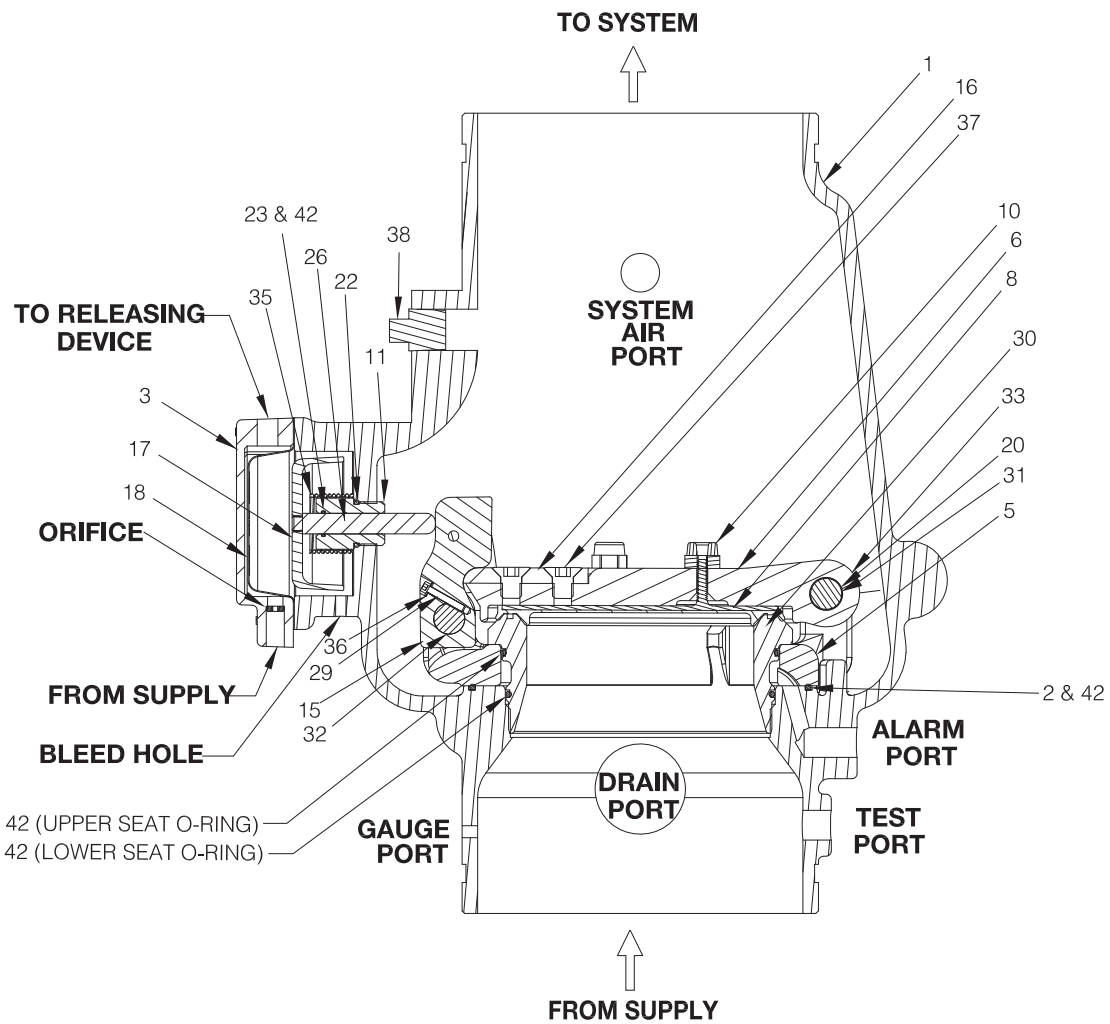
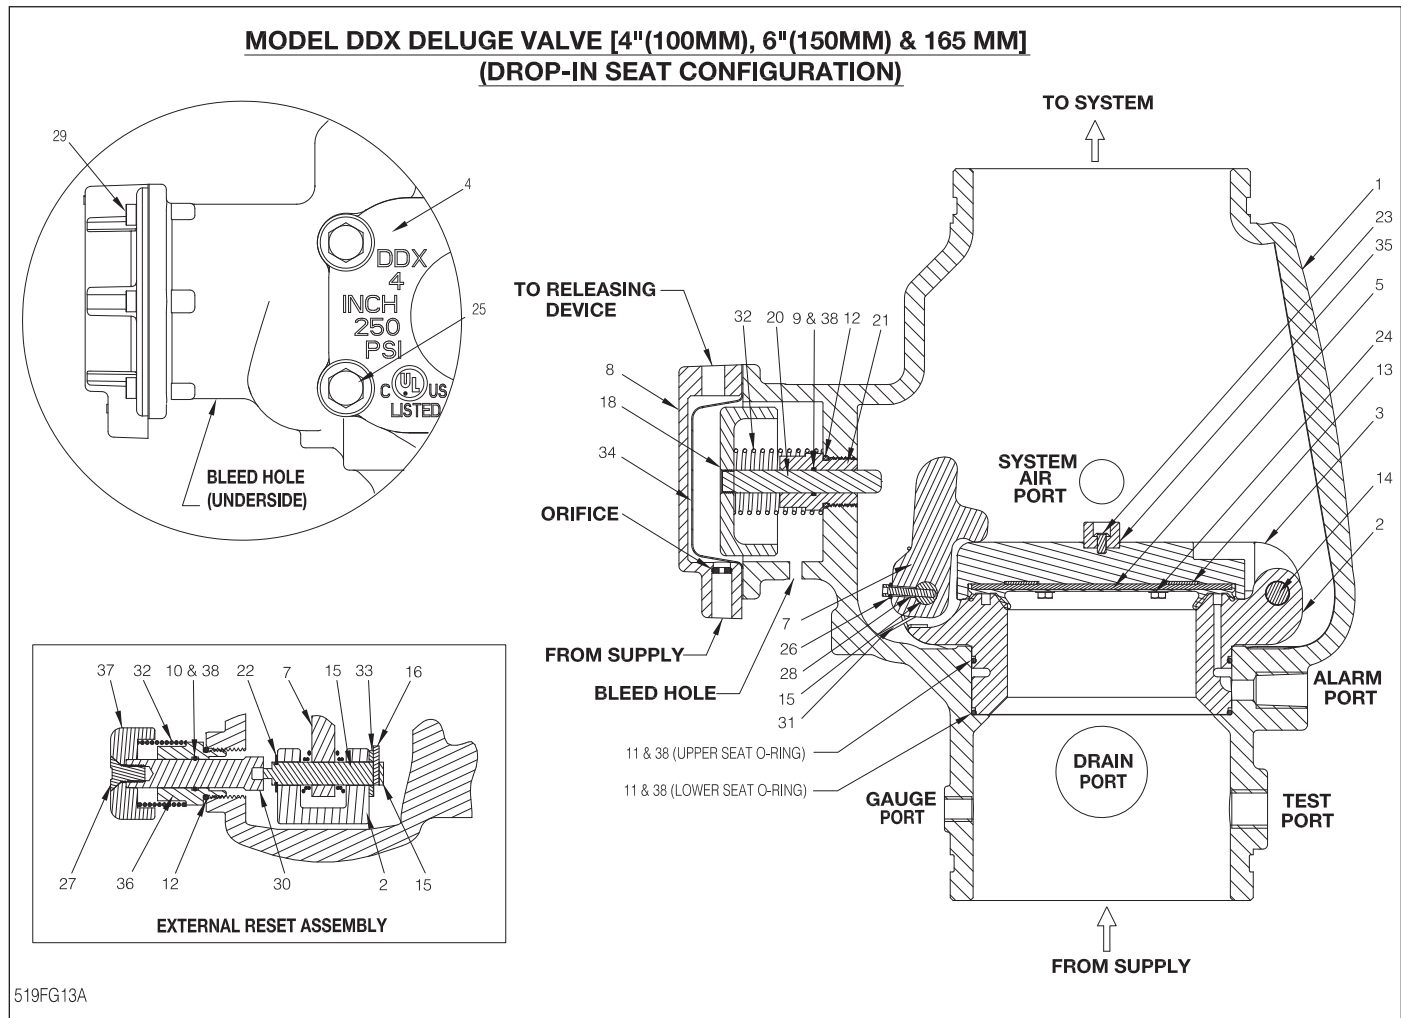

Fig. 13
Fig. 14
6. With the Model B Manual Emergency Station, valve D (Fig. 15) open, push in and rotate the Deluge Valve's external reset knob (#14, Fig. 13 or #38, Fig. 14) clockwise, until you hear a distinct noise indicating that the clapper has reset. **Note:** The reset knob can be rotated only while pressure in the pushrod chamber is vented to atmospheric conditions (0 psig).
4. **Ball drip valve G (Fig. 15)** — Make sure valve F (Fig. 15) is open. Push in on the plunger to be sure ball check is off its seat. If no water appears, the Deluge Valve's water seat is tight. Inspect the bleed hole (see Fig. 13 or Fig. 14) on the underside of the push rod chamber for leakage.
Refer to Figs. 13, 14 & 15.
Model DDX (Screw-In Seat Configuration) Deluge Valves Parts List (Refer to Fig. 13)
Model DDX (Drop-In Seat Configuration) Deluge Valves Parts List (Refer to Fig. 14)
This condition can be caused by leakage past the system side of the Model DDX Deluge Valve's seal assembly (#8, Fig. 13 or #5, Fig. 14). Be sure that this surface is free of any type of debris. To eliminate leakage due to water column in a deluge system, refer to the section in this bulletin marked “Draining Excess/Condensate Water From System”. If the problem continues proceed to the following section.
If system air is leaking out the ball drip valve, the problem is either damage to the airside of the Model DDX Deluge Valve's seal assembly (#8, Fig. 13 or #5, Fig. 14), seat (#29, Fig. 13 or #2, Fig. 14), the upper seat o-ring (#23, Fig. 13 or #11, Fig. 14) or, on the 8" (200 mm) valve size only, the mounting ring o-ring (#2, Fig. 13). If supply water is leaking out the ball drip valve, the problem could be caused by damage to the Model DDX Deluge Valve's seal assembly (#8, Fig. 13 or #5, Fig. 14), seat (#29, Fig. 13 or #2, Fig. 14), or lower seat O-ring (#24, Fig. 13 or #11, Fig. 14). The following section provides instructions to correct both conditions:
- B) Remove the Deluge Valve's front (handhold) cover (#7, Fig. 13 or #4, Fig. 14) and inspect the seat (#29, Fig. 13 or #2, Fig. 14), clapper (#6, Fig. 13 or #3, Fig. 14), and seal assembly (#8, Fig. 13 or #5, Fig. 14) for damage. If inspection indicates damage to the seal assembly (#8, Fig. 13 or #5, Fig. 14), replace as follows:
For Valve Sizes: 4" (100mm), 165mm, 6" (150mm) with Drop-In Seat Configuration only, Refer to Fig. 8 and Fig. 14:
At the rear of the valve, disconnect the water column drain trim section starting with the elbow connector (#21, Fig. 8). Then remove the ¼" globe valve (#32, Fig. 8), followed by the ¾"x¼" reducing bushing (#53, Fig. 8). Remove the retaining ring (hand hole cover side) from the clapper hinge pin (#14, Fig. 14) and push this pin through the condensate drain port and remove the clapper subassembly. Remove the four retaining screws (#24, Fig. 14) holding the seal faceplate assembly (#5, Fig. 14). Inspect the clapper (#3, Fig. 14) visually before installing. Apply a small amount of silicone based lubricant to the four retaining screws. Install a new seal faceplate assembly. Torque the retaining screws to approximately 40 inch-pounds and reassemble. If the seat (#2, Fig. 14) is damaged or it is suspected that the leakage is through the lower o-ring (#11, Fig. 14), the seat-clapper subassembly is easily removed as a unit as follows:
Using a 5/16" Allen wrench, remove the two 3/8" NPT pipe plugs (#19, (not shown) Fig. 14) located on the side chamber side of the Model DDX deluge valve. The seat-clapper subassembly is retained by two locking pins (#17, (not shown) Fig. 14). The centers of these pins have a ¼"-20 threaded hole. Remove the two locking pins by engaging them with a ¼"-20 screw and pulling them out (the two locking pins are not externally threaded, so turning them with the attached ¼"-20 screw or threaded rod is not recommended. A proven method is to use ¼"-20 threaded rod with a locknut on the unassembled end. Grab hold of the locknut with a pliers or vise-grips and tap the pliers or vise-grips in the direction away from the Deluge Valve. Doing so should pull the locking pins out of the Deluge Valve. With the clapper (#3, Fig. 14) in the closed position (not latched), dislodge the clapper-seat subassembly from the
valve body by inserting two slotted screwdrivers under the lever and clapper mounting ears and pry up until the clapper-seat subassembly is free from its bore. Reach into the valve and grasp the clapper-seat subassembly from the sides. Making sure the clapper is in the closed position (see Fig. 1), lift up and rotate the clapper-seat sub assembly clockwise 90 degrees so that the lever side of the assembly is facing up towards the outlet of the deluge valve. Next, rotate the clapper-seat sub assembly 90 degrees about the centerline of the valve so that the clapper is facing the hand hole opening and the lever is still facing the outlet of the deluge valve. Then rotate the clapper-seat sub assembly 90 degrees, so that the clapper is now facing the outlet of the deluge valve and the lever is now facing the back of the valve. Pull the clapper-seat sub assembly out through the hand hole opening by the hinge pin side. Rotating the seat-clapper subassembly up as it is being removed will help it slide out more easily since the lever will prohibit it from sliding straight out. Visually examine all components of the clapper-seat subassembly replacing any component that appears damaged. New o-rings (#11, Fig. 14) should always be used for reassembly.
For Valve Sizes: 4" (100mm), 165mm, 6" (150mm) with Drop-In Seat Configuration only, Refer to Fig. 14:
It is likely that the lower seat o-ring (#11, Fig. 14) has remained at the bottom of the Deluge Valve body's bore. Discard this o-ring and clean the bore. Lubricate the bore with o-ring grease and place the lower o-ring on the step at the bottom of the bore, verifying that it is in full contact with the bore. Lubricate the bottom step and upper o-ring (#11, Fig. 14) of the refurbished clapper-seat subassembly. Insert the clapper-seat subassembly into the hand hole opening, lever (#7, Fig. 14) first and rotating the clapper-seat subassembly until the lever faces the outlet of the deluge valve. Next rotate the clapper-seat subassembly 90 degrees about the center axis of the valve until the bottom of the clapper-seat subassembly faces the pushrod (#20, Fig. 14). Then rotate the clapper-seat subassembly 90 degrees counter-clockwise so that the clapper (#3, Fig. 14) is facing the outlet of the deluge valve and the lever (#7, Fig. 14) is facing the pushrod (#20, Fig. 14). Once the clapper seat subassembly is in this position simply slide the assembly into the bore of the valve, making sure it is straight to avoid binding of the seat in the bore. Slightly twisting the assembly will assist in getting the clapper-seat subassembly properly seated. Once it is verified that the clapper-seat subassembly is in the fully down position and the lever (#7, Fig. 14) is aligned with the pushrod (#20, Fig. 14), clean and lubricate the two locking pins (#17, (not shown) Fig. 14) with o-ring lubricant. Slide the two locking pins into the deluge valve body to lock the seat in place. Slightly twisting and pressing down on the clapper-seat subassembly will help the pins to slide in more easily. Then re-install the 3/8" NPT pipe plugs (#19, (not shown) Fig. 14). Reassemble the hand hole cover (#4, Fig. 14) and set up the Model DDX Deluge Valve as per the section "Resetting Model DDX Deluge Valve Single Interlock Preaction Systems".
A small bleed hole is located on the underside of the push rod chamber (see Fig. 13 or Fig. 14). If there is air or water leakage coming out of this hole, do the following:
- b) Remove the trim at the unions nearest to the push rod chamber cover (#3, Fig. 13 or #8 Fig. 14).
- c) Take the push rod chamber cover (#3, Fig. 13 or #8, Fig. 14) off by removing the six retaining screws (#26, Fig. 13 or #29, Fig. 14).
Water coming out of the bleed hole is caused by a leaking diaphragm (#18, Fig. 13 or #34, Fig. 14). Visually inspect the push rod chamber cover (#3, Fig. 13 or #8, Fig. 14) and piston (#17, Fig. 13 or #18, Fig. 14) to determine what could have damaged the diaphragm and correct. Install a new diaphragm. **NOTE: The diaphragm has two different surfaces; it is not bi-directional.** It will fail if installed backwards! Roll the diaphragm so that the smooth surface (the pressure side) conforms to the inside of the push rod chamber cover and reassemble the six retaining screws (#26, Fig. 13 or #29, Fig. 14) with an installation torque of 15 foot-pounds. Set up the Model DDX Deluge Valve as per the section "Resetting Model DDX Deluge Valve Single Interlock Preaction Systems".
System air coming out of the bleed hole is caused by a defective O-ring assembled to the push rod guide (#11, Fig. 13 or #9, Fig. 14). Remove the piston-push rod subassembly, push rod spring (#34, Fig. 13 or #32, Fig. 14), and push rod guide (#11, Fig. 13 or #21, Fig. 14). Verify by hand turning, that the push rod cannot be unscrewed from the piston. Replace all O-rings and the push rod guide (#21, #22 & #11, Fig. 13 or #9, #12 & #21, Fig. 14). The correct installation torque for the pushrod guide is 35 inch-pounds. **CAUTION: Do not over tighten the push rod guide.** Reassemble the components that were initially removed. Re-install the diaphragm (#18, Fig. 13 or #34, Fig. 14) if it appears to be in good shape, otherwise, replace it also. **NOTE: The diaphragm has two different surfaces; it is not bi-directional. It will fail if installed backwards!** Roll the diaphragm so that the smooth surface (the pressure side) conforms to the inside of the push rod chamber cover and reassemble the six retaining screws (#26, Fig. 13 or #29, Fig. 14) with an installation torque of 15 foot-pounds. Set up the Model DDX Deluge Valve as per the section "Resetting Model DDX Deluge Valve Single Interlock Preaction Systems".